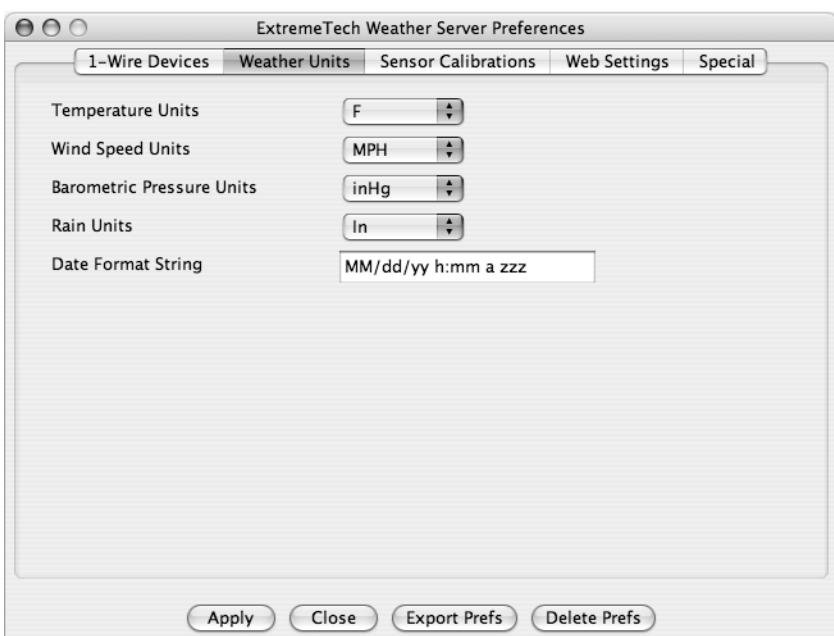

FIGURE B-3: Weather Units tab.
16. Click the Weather Units tab to see the available weather units as shown in Figure B-3. Select your preferred units for wind speed, temperature, pressure, and rain. To change the way time is displayed in the web page, modify the Date Format String as specified in the JavaDocs SimpleDateFormat class.